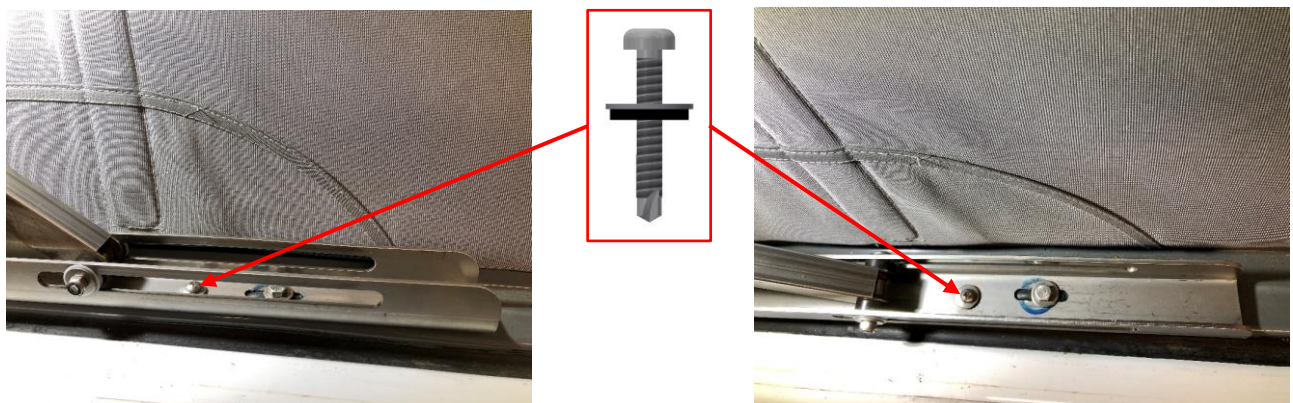

Fig. 3-4: Locking screw
- After installing the roof, the hinges must be secured against slipping with a locking screw (see Fig. 3-4)!